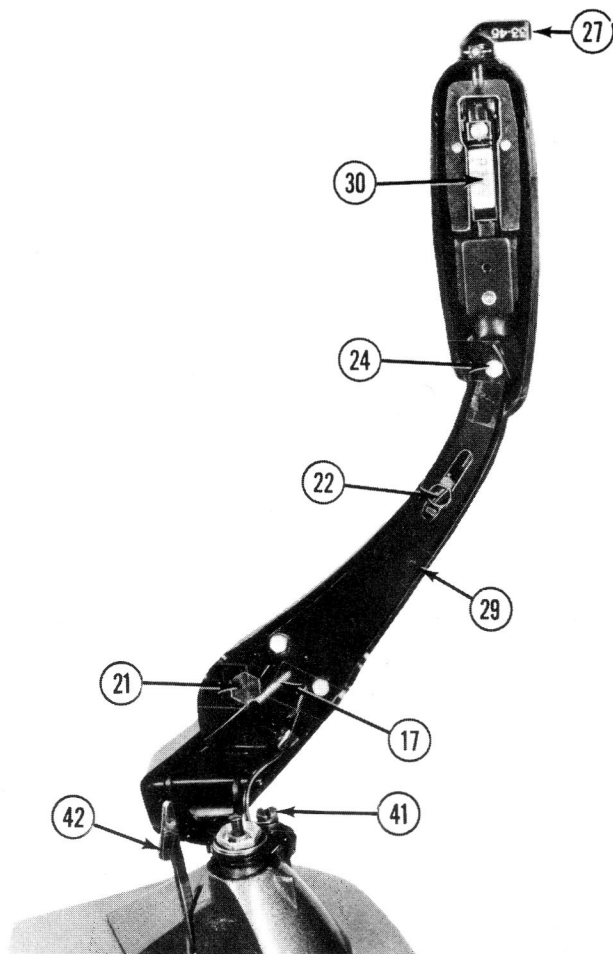

Figure 4
NEEDLE SET-DOWN (Refer to Figure 4); The set-down position of the needle is adjusted by means of
PICKUP ARM HEIGHT (Refer to Figure 4): The pickup arm height is adjusted by the lift screw (21) located at the rear of the strengthener. To raise the height of the pickup arm, turn this screw counter-clockwise. To lower the pickup arm, turn clockwise. The pickup arm height should be adjusted so that with a 1-1/8" stack of records the pickup arm lifts 1/4" straight up as the change cycle starts.
NEEDLE PRESSURE: The needle pressure should be between 10 and 12 grams. Adjustment may be made by loosening the screw (22) on the slide which moves in a slot in the tone arm strengthener (see Figure 4). Move the slide back and forth until the correct needle pressure is obtained.